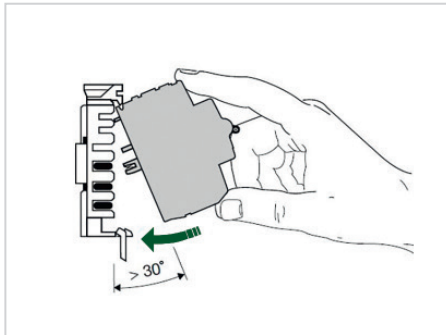

Fig.15: Assembly of a SMISSLINE device
– Mount all devices onto the SMISSLINE TP system as pictured in Fig.15